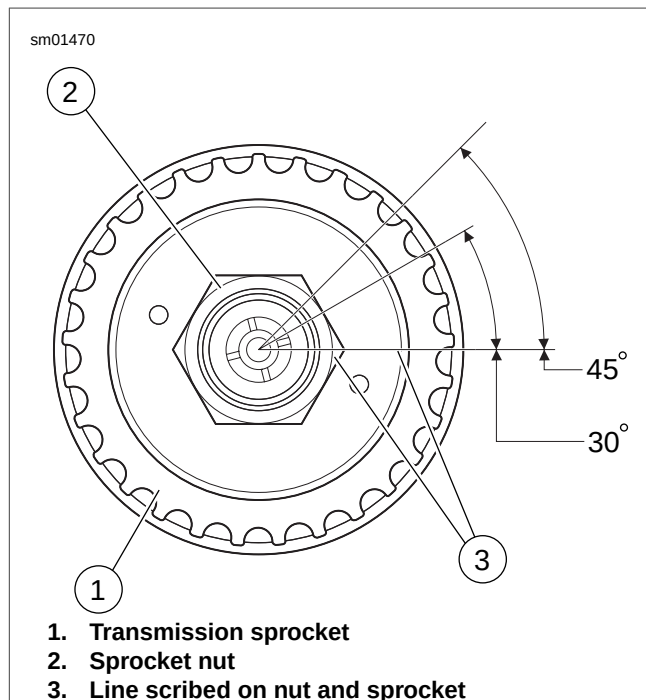

Figure 5-112. Transmission Sprocket Nut Final Tightening Procedure
- b. See Figure 5-112. Scribe a line on the transmission sprocket nut and continue the line on the transmission sprocket as shown.